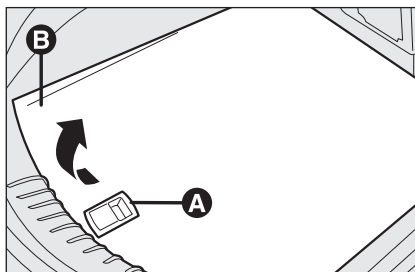

fig. 2
- ☐ using handle **A-fig. 2** raise carpet **B** and secure it to the top of the boot by means of the side couplings provided for the purpose;